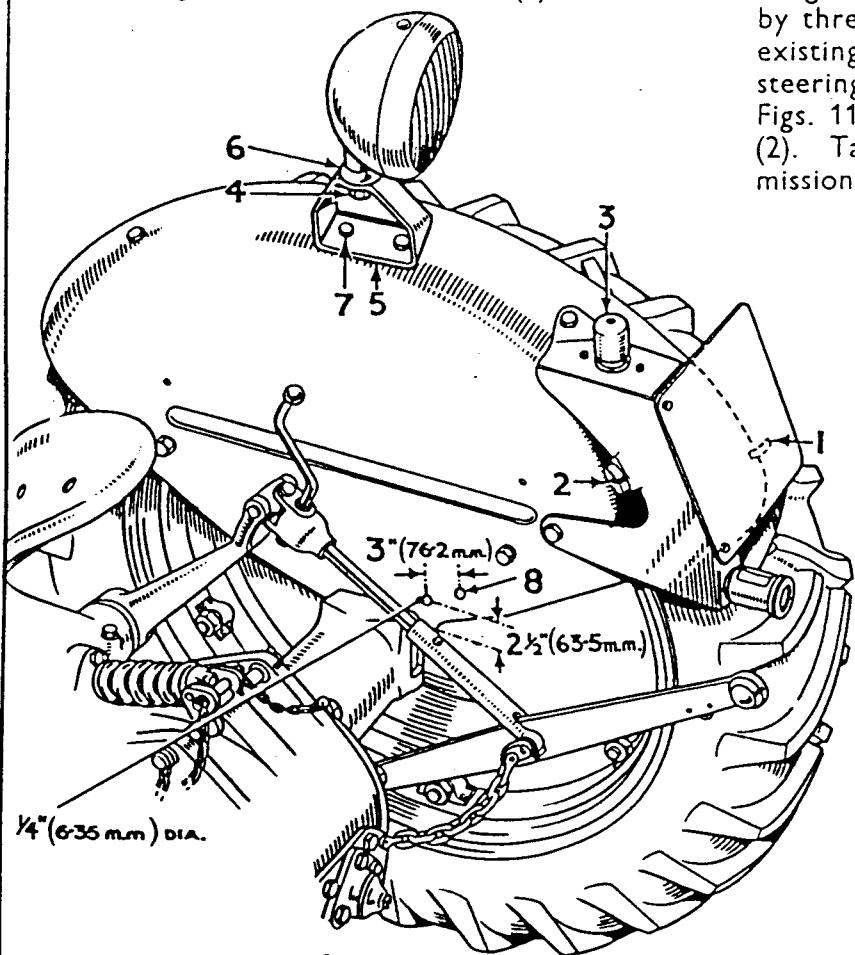

FIG. 10
in Fig. 10), or 16 clips when wired for right-hand rule of road. The extra clips are provided to make the kit interchangeable throughout the tractor range. The clips to be used when making
Drill out existing rivet on fender and temporarily fit bracket in position using nut and bolt (7) as shown in Fig. 10. Mark the centre of the other hole in bracket on the fender, remove bracket and drill second hole using same size drill. See that bracket is fitted so that hole to be drilled is to the rear of the tractor.
Drill one  $\frac{1}{4}$ " (6.35 mm.) diameter hole in fender as shown in Fig. 10. This hole to be
All reference to right or left-hand is made when looking from rear of tractor. See Fig. 10.
## REAR FLOODLIGHT AND BRACKET —See Fig. 10.
fender by means of clip "A4" and 2 BA bolt with spring washer and nut through the previously drilled hole (8), see Fig. 10.